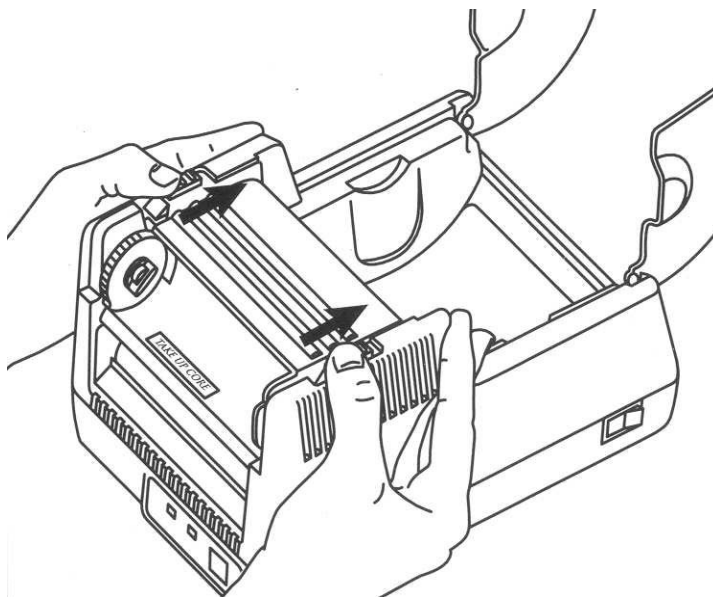

Figure 3-3. Releasing the Print Mechanism
2. Refer to Figure 3-3. Slide the black latches towards the rear of the unit to release the print mechanism.